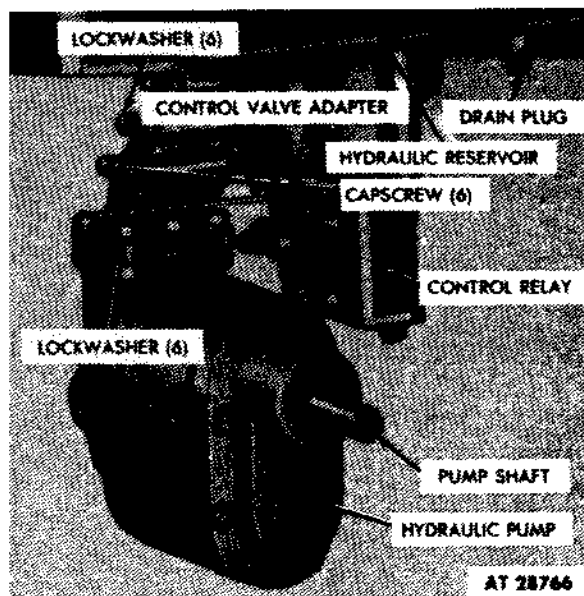

Figure 2-221. Right front view of hydraulic
#### b. Installation (fig. 2-221).
(1) Remove the hydraulic pump (para 2-242).
(2) Remove the six capscrews (fig. 2-221) and
(4) Position the control valve adapter (fig. 2-221) on the control valve assembly, and secure it with six capscrews and lockwashers.
(5) Install the hydraulic pump (para 2-242).